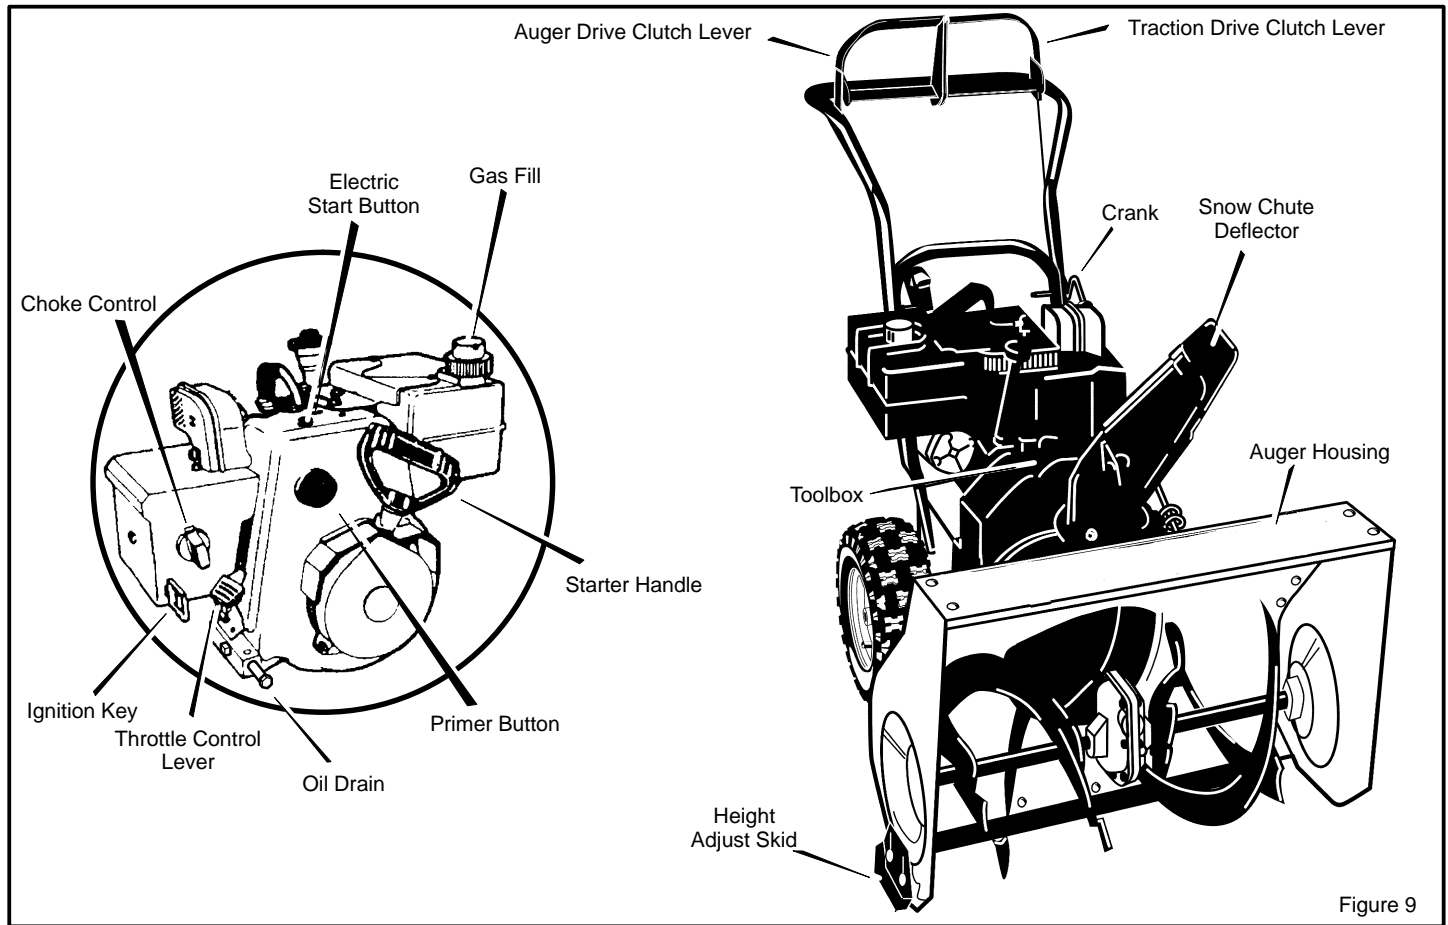

Figure 9
1. Rotate the **crank** to set the direction (left to right) of the discharge chute (see Figure 9).